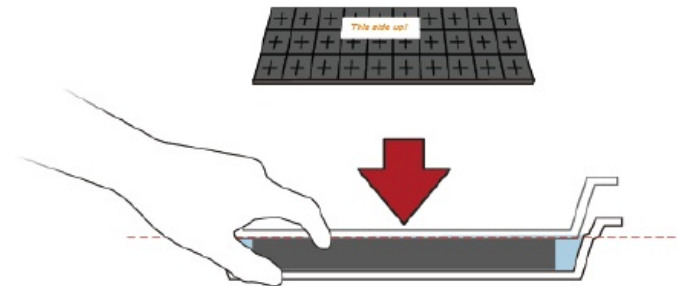
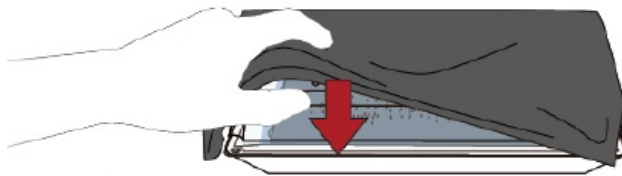
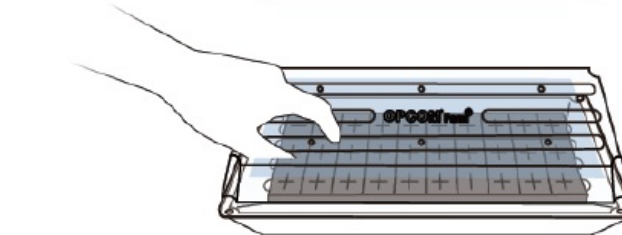

Fig 2
Fig 3
Fig 4
2. Second-time sprout: Open Grow Sponge package, put each sponge piece into the water of the seedling tray (make sure the front side with the seed label is side up), press the sponges into water 5 seconds and ensure the sponges absorb water completely. Put seed moisturizing cover on the sponges.(Fig2)
3. Place the seedling tray with cover in the shade. (Fig3)
5. During 0~ 7 days, find the sprouted ones in the tray: pick them out, and move them into the product (make sure the sponges lineup with the black dot on the partition Fig4)
2. When changing water, you can use water outlet on the left side to leak the water. Plug out plastic lid(Fig2), plug-in water pipe(Fig3), then plug out water tank inside stopper.(Fig4)